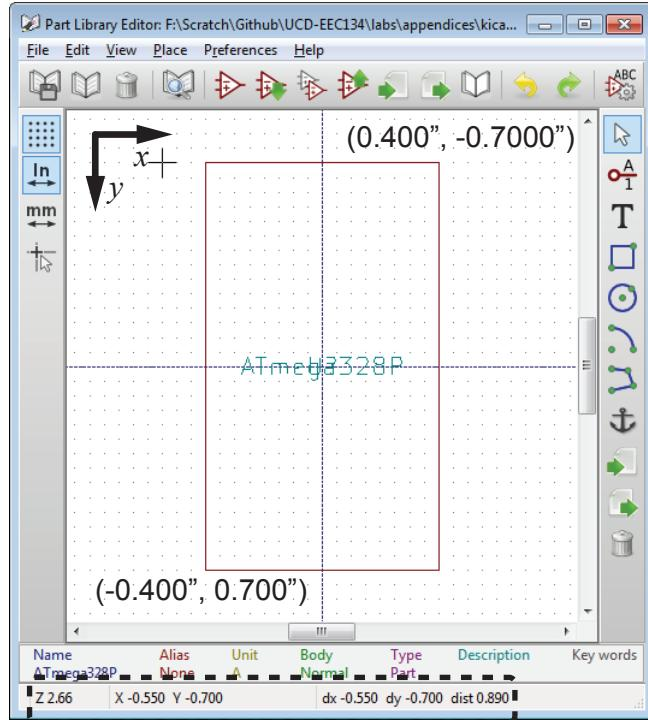

Figure 11: Drawing a rectangle in the library editor main window with the help of the built-in coordinate system.
6. Click the “Add graphic rectangle to the component body” button , and use the mouse cursor to draw a rectangle from ( $x = -0.400"$ ,  $y = 0.700"$ ) to ( $0.400"$ ,  $-0.700"$ ) (Fig. 11). The current position of the cursor is displayed in the status bar at the bottom of the main window. Notice that the positive direction of the  $y$ –axis points downward.